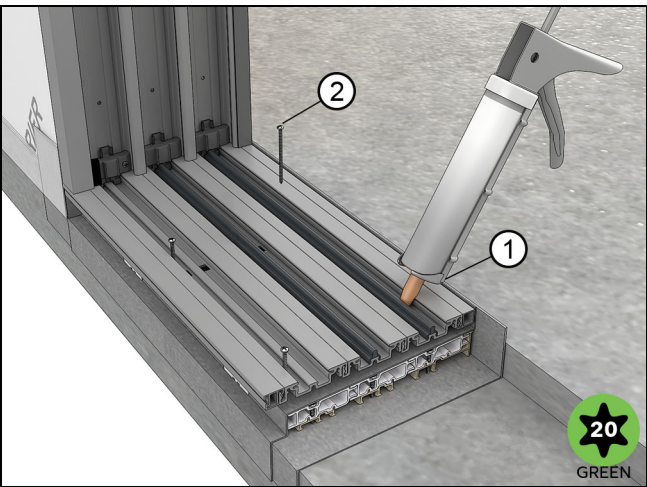

Figure 57 Seal and fasten HP sill.
9. Inject sealant and fasten with the #8 x 1 3/4" self drilling screws every 10" (254) (T20 Torx). See Figure 57.